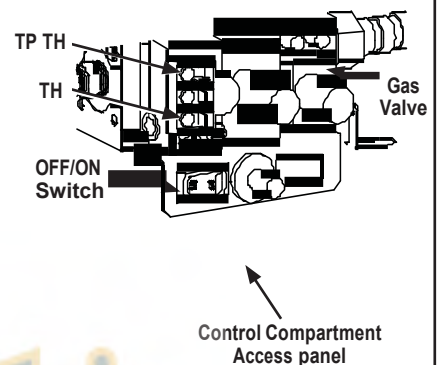

Figure 46
Ground supply lead must be connected to the wire attached to the green ground screw located on the outlet box. See *Figures 46 & 47*. Failure to do so will result in a potential safety hazard. The appliance must be electrically grounded in accordance with local codes or, in the absence of local codes, the National Electrical Code, ANSI/NFPA 70-latest edition. (In Canada, the current CSA C22-1 Canadian Electrical Code).
4. Wire and install the outlet receptacle to junction box, then install into the chosen corner of the control compartment as shown in *Figures 46, 47 and 49*.
Important Note: The gas valve OFF/ON switch is shown in **Figure 46** on **Page 28**. It is integral with the gas valve and should be set to the ON position.